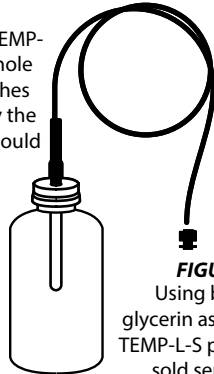

FIGURE 1
3. Insert the probe (TEMP-UL-S, TEMP-L-S, TEMP-L-W, TEMP-H-S, TEMP-H-W) through the hole in the cap and into the bottle until it reaches the probe's black heatshrink tubing. Only the stainless steel portion/tip of the probe should be inside the bottle. (Figure 1.)